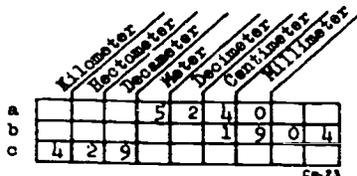

Figure 3-2. Units of measure.
Notice in figure 3-2 that the meter is located in the center of the lists of names. At the left is a column of metric units and what they represent. Note that the difference is the location of the decimal point.
- Using figures 3-2, 3-4, 3-5, and 3-6, find the correct answer.